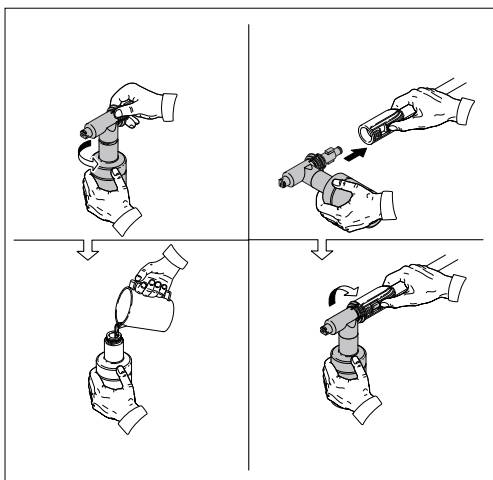
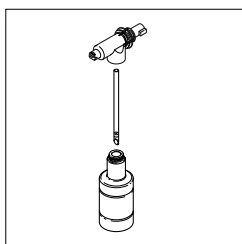

Fig. 7
Fig. 8
- When using the detergent bottle, fill it with a properly formulated detergent or cleaner with a water ratio according to instructions on the container (Fig. 7). The detergent bottle comes with a straw which is fitted into the screw-on top. If you do not see the straw, look inside the bottle and attach it to the screw-on top (Fig. 8).